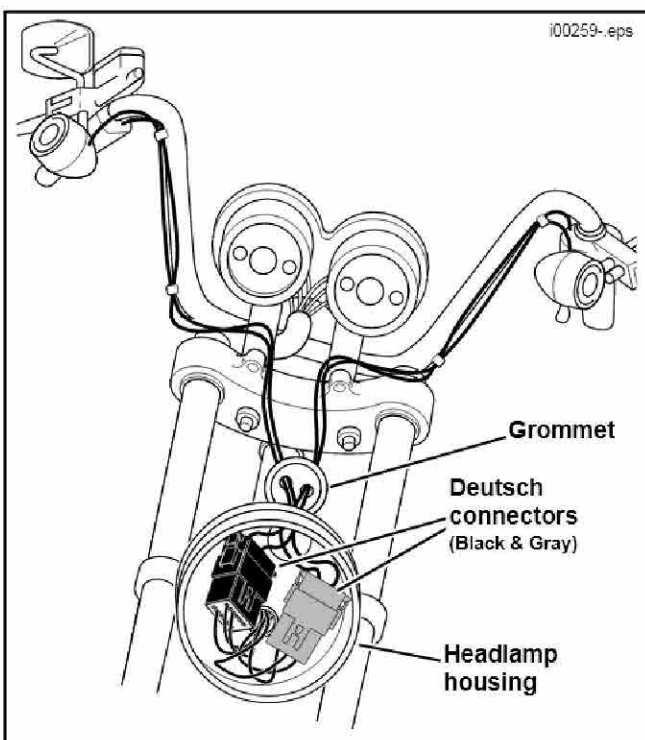

Figure 4. Headlamp Deutsch Connector Location
5. See Figure 4. Pull rubber grommet from 1-3/4 inch diameter hole centered at back of headlamp housing.
10. See Figure 4. Position 12-place Deutsch connectors at the back of the headlamp housing. Place the gray connector on the left side, the black connector on the right.